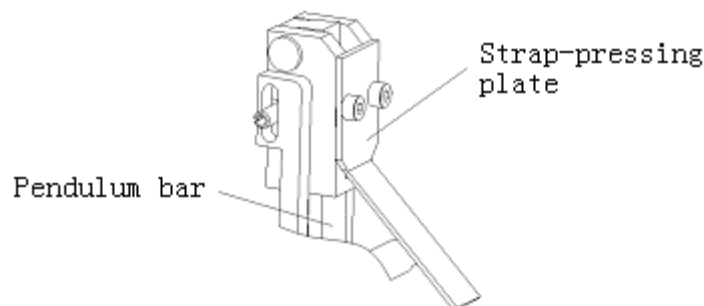

Fig5-4
- e. Strap-pressing plate is too low (See Fig5-4): Strap-pressing plate is set for convenient feeding strap. But if it is adjusted too low with a small gap to swing link bottom and affects freely feeding and withdrawing of the strap, it will cause this situation. At this time properly raise the strap-pressing plate.